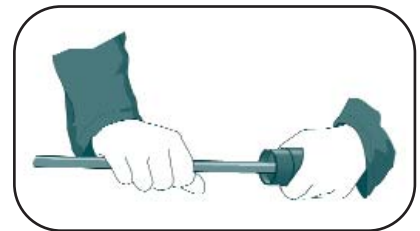

Figure 2
2. Use a deburring tool to ensure that the end of the tube is free from any burrs or sharp edges. If a hacksaw has to be used, take care to cut the tube square and properly deburr. (Figure 2)